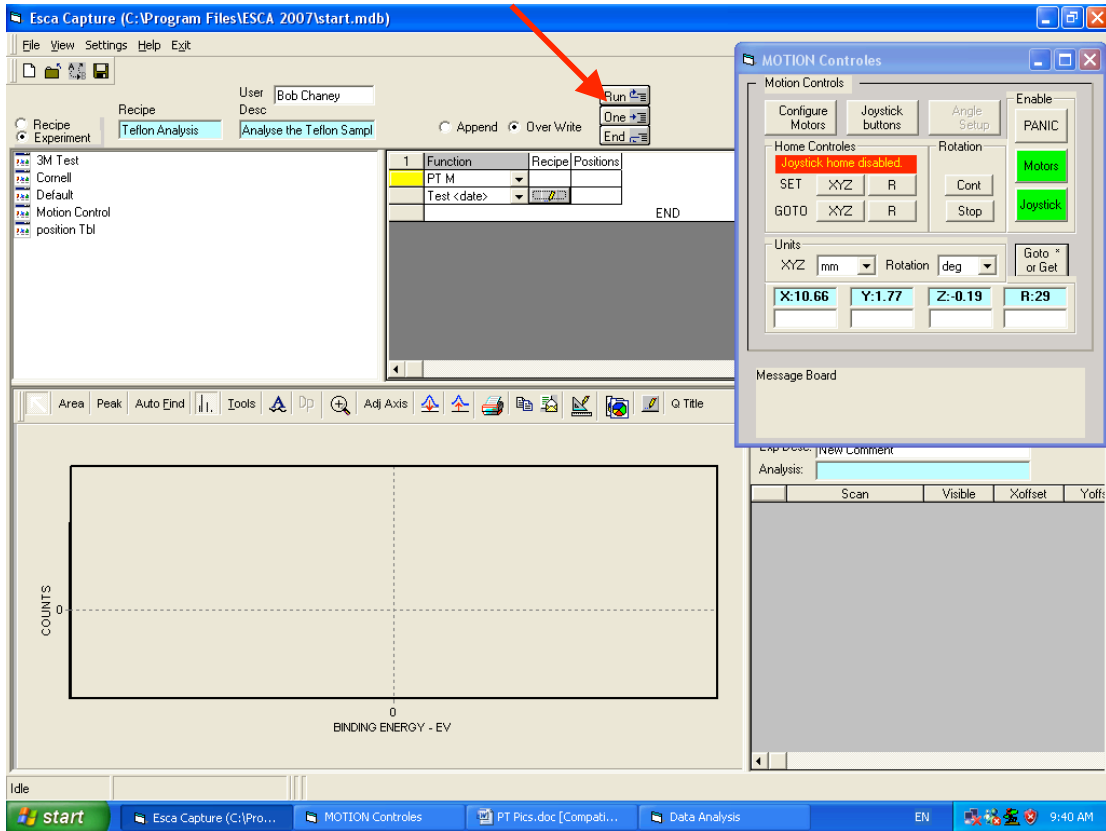

Figure 15. The main screen Run button.
- 4.4 The Position table routine is now ready to run. If necessary switch to the *Experiment* mode and then activate the routine by clicking on the *Start* button (Fig.15).